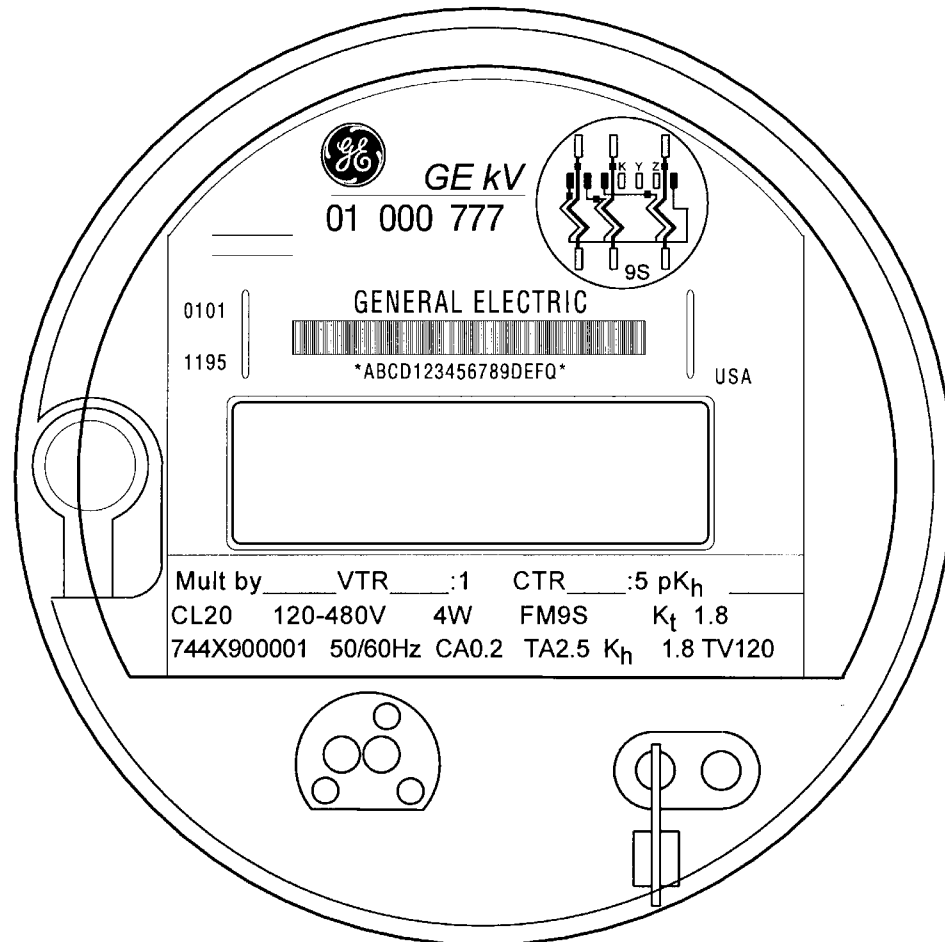

Figure 1-1. The kV Meter
- Figure 1-1. The kV Meter..... 1-1